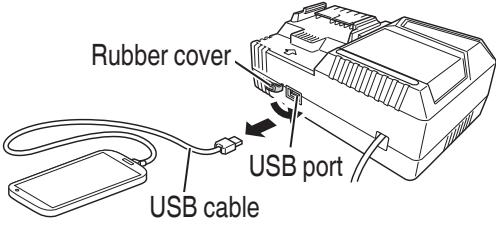

Fig. 10
(3) When charging is completed
- Unplug the power cord from the electrical outlet. (Fig. 10)